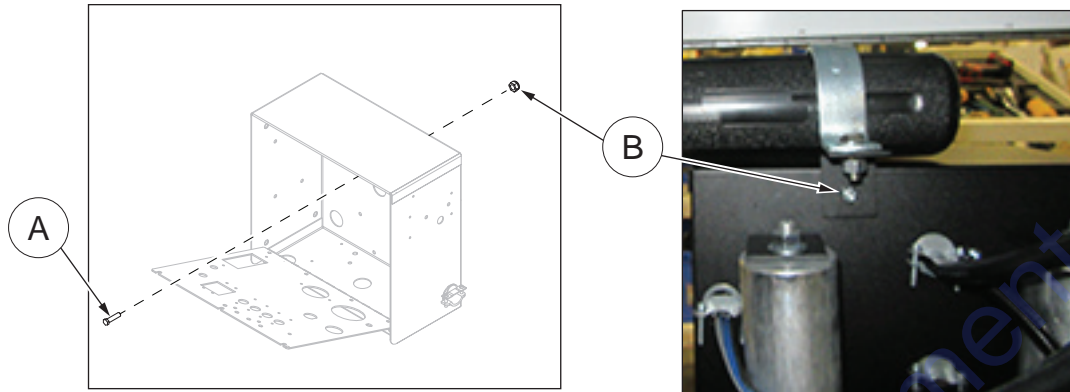

Figure 20 - Location of Bolt and Nut
2. See Figure 20. Near top of box, locate bolt and nut that pass through box. Then, do the following: